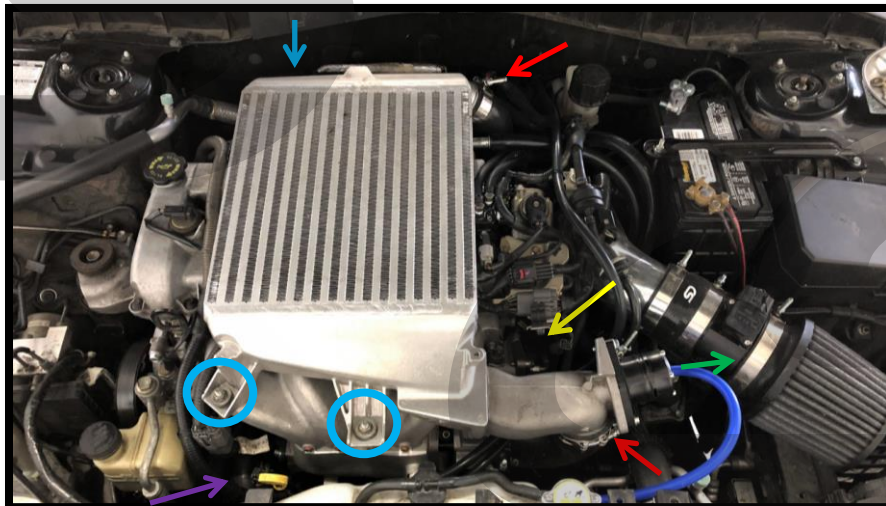

Figure 1b
- b) Loosen the clamps at the inlet and outlet of the intercooler using a 10mm deep socket and ratchet. Clamps shown with red arrows in Figure 1b.
- c) Remove the three 12mm nuts that bolt the TMIC to the engine. Shown with blue in Figure 1b.
- d) Remove the BPV hose from your BPV. Shown with blue hose and green arrow in Figure 1b.
Figure 1b is used as a location reference for Section 2.
- a) Disconnect the swirl vane wires (red arrow in Figure 2a). Then, using needle nose pliers, remove the connector from the bracket. This connector is located on the driver's side of the intake manifold (yellow arrow in Figure 1b).
- c) **Locate the connector that runs to the coil packs.** This is located at the front passenger side of the intake manifold. Move the gray wrapped wires out of the way. Location shown with **purple arrow** in **Figure 1b**.